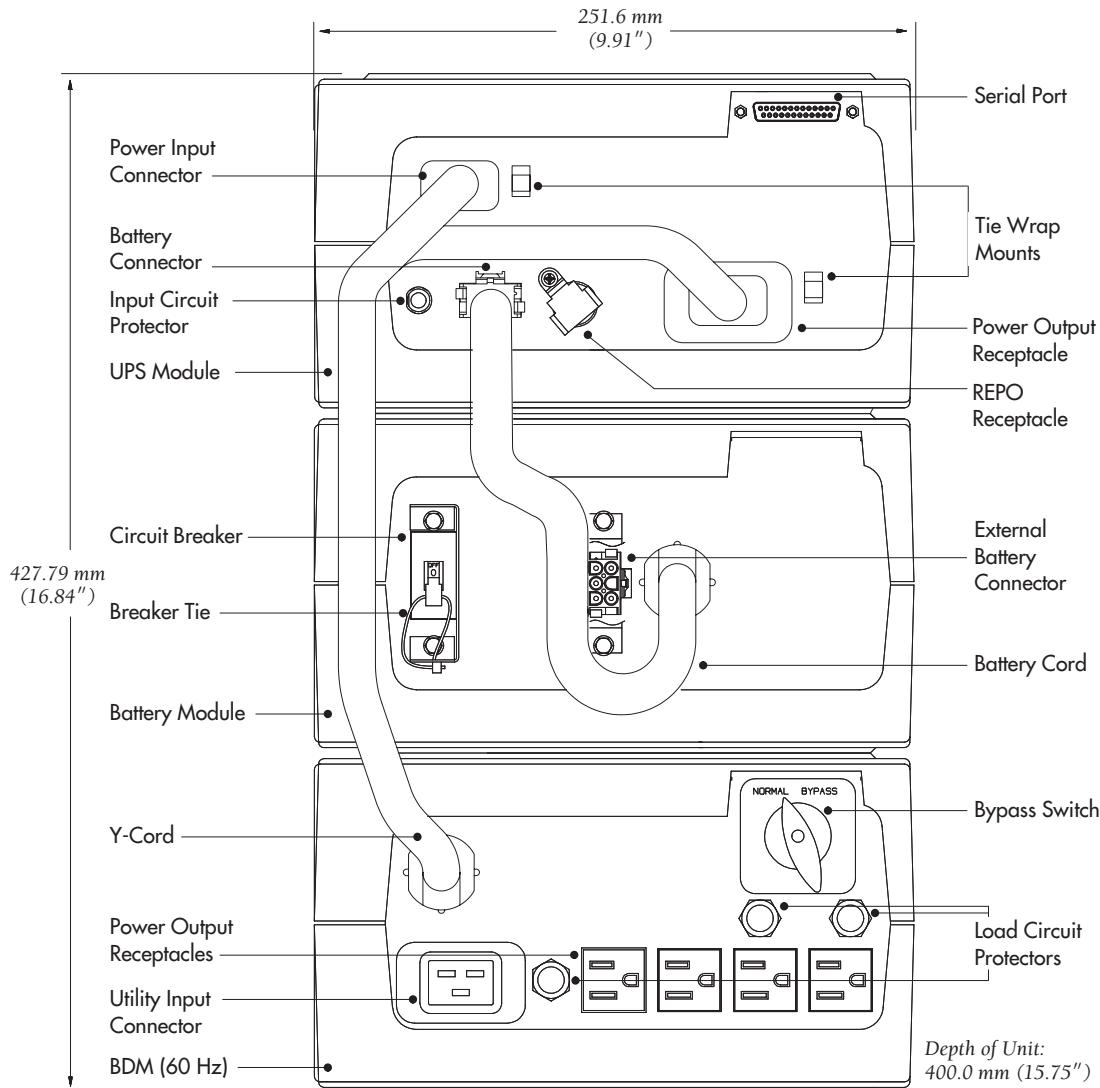
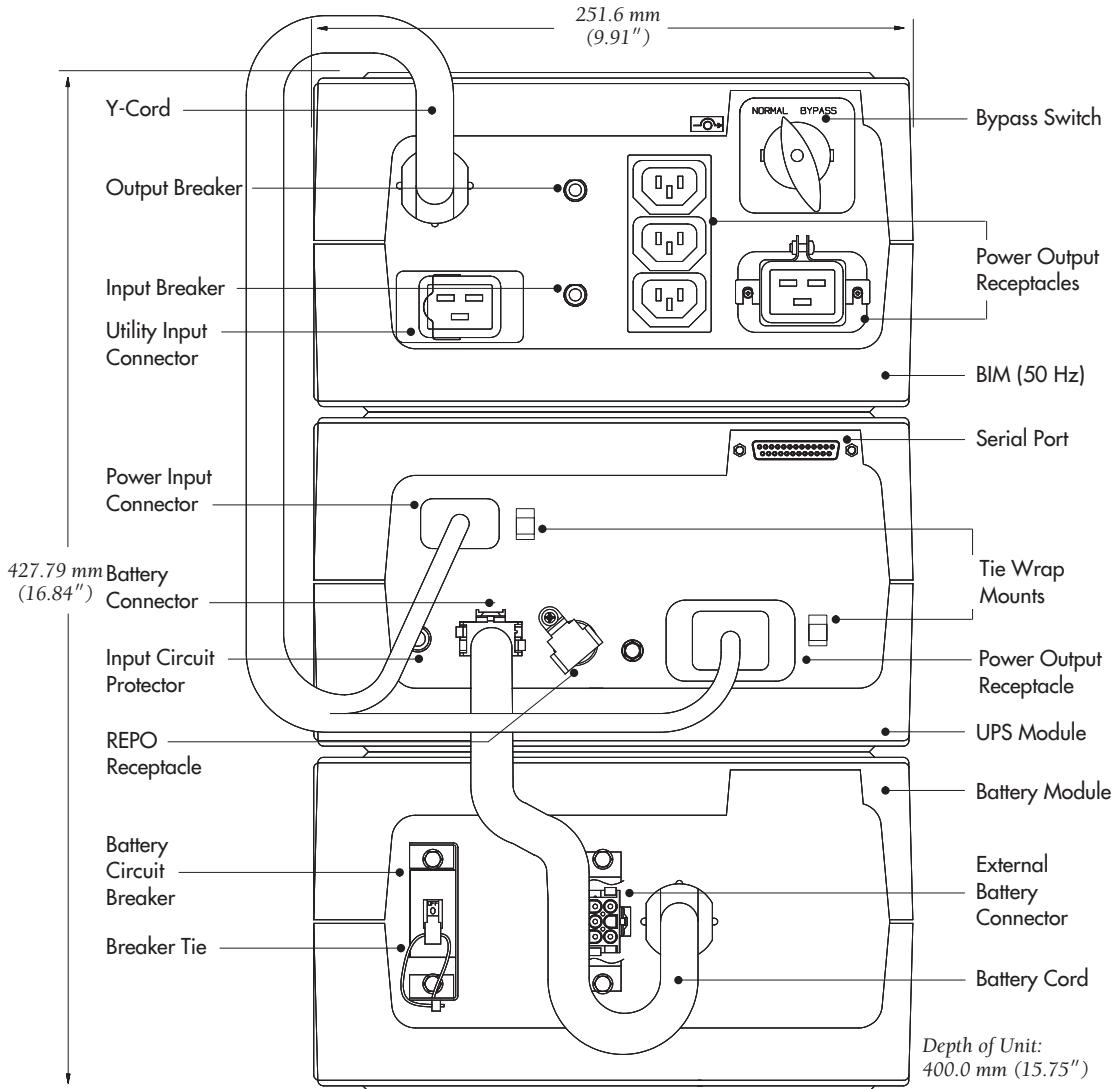

Figure 5. UPS with BDM Rear Panel
Figure 6. UPS with BIM Rear Panel
Whenever the units are not energized, make sure the circuit breaker on all battery modules is returned to the OFF (O) position (see Figure 5 on page 26).
- 5 Make sure the Bypass switch on the Bypass Module rear panel is in the NORMAL position (see Figure 5 or Figure 6).
- 6 Make sure the circuit breaker on all battery modules is in the OFF (O) position.
- 12** Plug the Y-cord of the Bypass Module into the power connectors on the UPS rear panel as shown in Figure 5 or Figure 6.
- 2 Pivot the REPO receptacle guard out of the way, plug the REPO plug/receptacle UPS connector into the REPO receptacle on the UPS rear panel (see Figure 5 on page 26 or Figure 6 on page 27). Twist the connector in place.
- 1 Make sure the Bypass switch on the Bypass Module rear panel is in the NORMAL position (see Figure 5 on page 26 or Figure 6 on page 27).